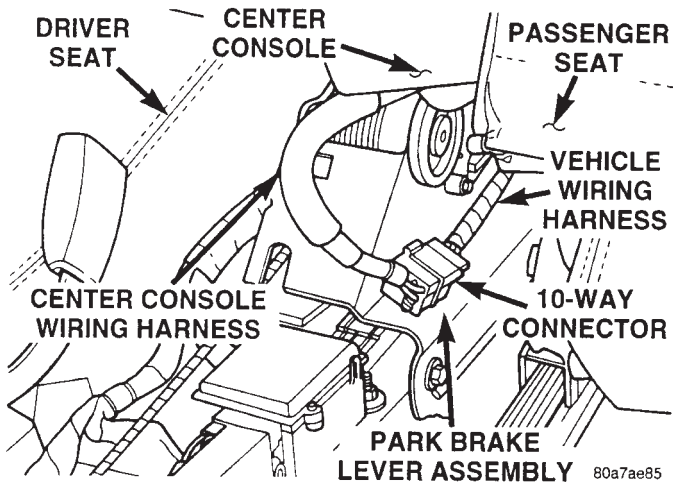

Fig. 134 Console Wiring Harness Connector
(5) Raise the park brake lever to a 45° angle. This is required for clearance to remove the center console.
(6) Raise the rear of the center console high enough to access the center console wiring harness connector (Fig. 134). Disconnect the center console wiring harness connector from the vehicle wiring harness 10-way connector (Fig. 134).
(7) Remove the center console from the vehicle.
(8) Lower the park brake lever to its fully released position.
(18) Check the rear wheels of the vehicle with the park brake lever fully released, they should rotate freely without dragging.
(19) Raise the park brake hand lever to approximately a 45° angle. This is necessary for the required clearance to install the center console.
(20) Install the center console back in the vehicle.
(21) Install the wiring harness connector for the center console into the vehicle wiring harness (Fig. 134).